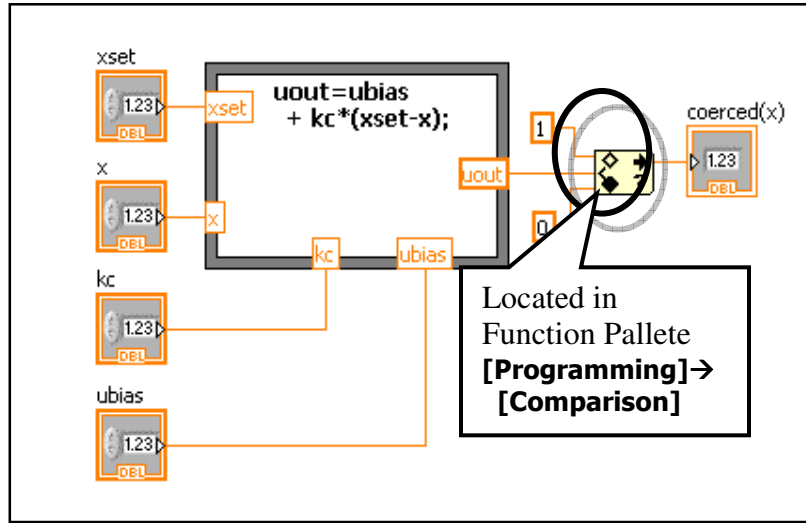

Figure C1.
1. Create a new VI shown in Figure C1.